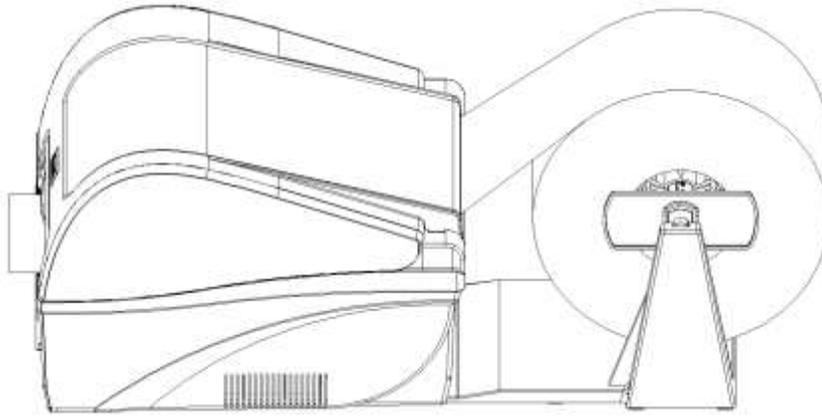

Figure 6-12
5. Close the Printhead Module and the top cover. See Figure 6-12.